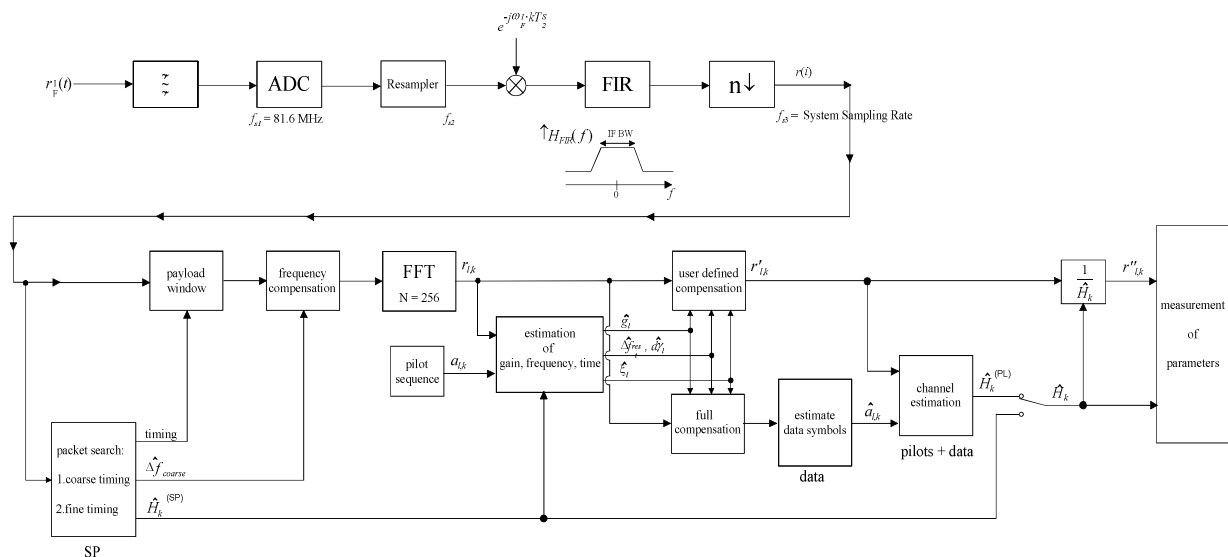

Fig. 2-90 Signal processing of the IEEE 802.16 OFDM measurement application
A diagram of the interesting blocks is shown in Fig. 2-90. First the RF signal is down-converted to the IF frequency $f_{IF} = 20.4$ MHz. The resulting IF signal $r_{IF}(t)$ is shown on the left-hand side of the figure. After bandpass filtering, the signal is sampled by an Analog to Digital Converter (ADC) at a sampling rate of $f_{s1} = 81.6$ MHz. This digital sequence is resampled to the new sampling frequency of $f_{s2} = 80$ MHz which is a multiple of the Nyquist rate (20 MHz). The subsequent digital down-converter shifts the IF signal to the complex base band. In the next step the base band signal is filtered by a FIR filter. To get an idea, the rough transfer function is plotted in the figure. This filter fulfils two tasks: first it suppresses the IF image frequency, secondly it attenuates the aliasing frequency bands caused by the subsequent down-sampling. After filtering, the sequence is sampled down by the factor of 4. Thus the sampling rate of the down-sampled sequence $r(i)$ is the Nyquist rate of $f_{s3} = 20$ MHz. Up to this point the digital part is implemented in an ASIC.
In general, the coarse frequency estimate $\hat{\Delta f}_{coarse}$ (see Fig. 2-90) is not error-free. Therefore the remaining frequency error Δf_{rest} represents the not yet compensated frequency deviation in $r_{i,k}$. Consequently the overall frequency deviation of the device under test (DUT) is calculated by $\Delta f = \hat{\Delta f}_{coarse} + \Delta f_{rest}$. Remark: The only motivation for dividing the common phase drift in equation (11) into two parts is to be able to calculate the overall frequency deviation of the DUT.